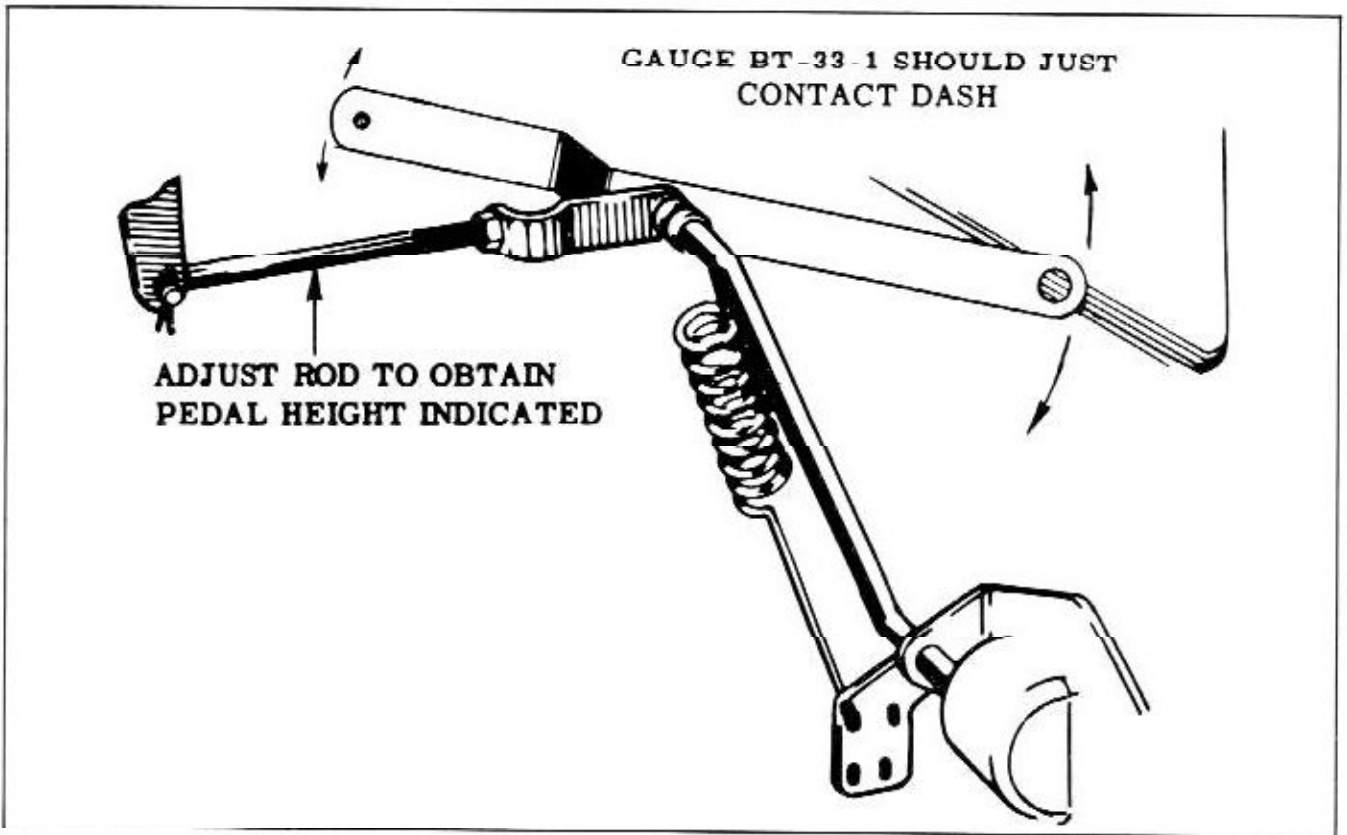

Fig. 11-5 Accelerator Pedal Adjustment
4. Adjust throttle rod to obtain the correct accelerator pedal height as indicated in Fig. 11-5.